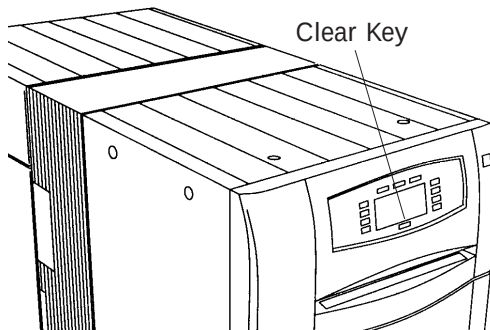

figure 4
- 2.** Press the "Clear" key of the ML 700/ML 700 Plus (fig. 4 and 4.1) thus switching off the ML 700/ML 700 Plus alarm sound.